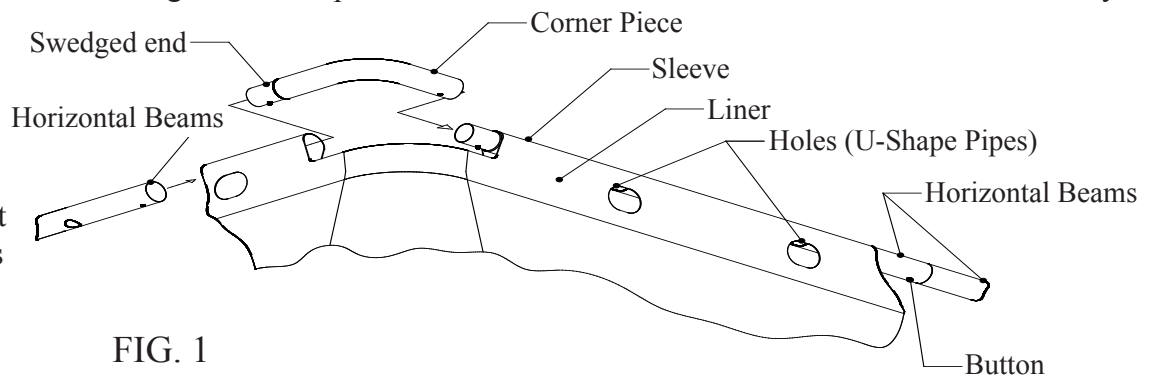

FIG. 1
2. Locate the four metal (Corner Pieces) of pipe Fig. 1, then place one at every corner of the pool. Now locate the (Horizontal Beams), insert a (O-Shape Spring) see Fig. 2 in each smaller swedged end of these only to join the beams together in length, **Note:**
(Horizontal Beams) into the sleeve (**making certain you work in a clockwise direction around the pool with all swedged parts pointing clockwise**) see Fig. 1 and refer to the “View of All Frame Assembly Parts” shown on page 5.
5. Connect the (Horizontal Beams) together pushing the button in as you insert one beam into the other beams end. Look through the locking hole in the beam as you join them, slightly rotate the beams until the button aligns with the hole and pops up, locking that beams end into the other beams end. Repeat this procedure for the remaining (Horizontal Beams) making certain the holes in the beams align with the openings in the pool sleeve Fig. 1 these holes are used for the U-Shape Pipe (end) and (side) supports. Next install the corner pieces (**again working in a clockwise direction with swedged ends pointing clockwise**), slide them together and repeat this procedure for all corners, on the last corner it might be necessary to lift the final joining connection at an angle to allow the pipes to fit into each other slowly lowering the ends flat again then sliding them together until it fits in completely, this step may require two people. Now double check all (Horizontal Beam) and (Corner Piece) connections at this time.